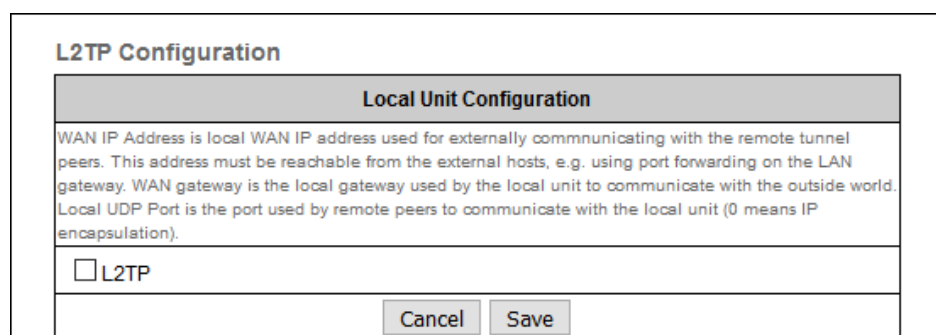

Figure 45. Configurator GUI (L2TP Configuration dialog)
- The **L2TP Configuration** dialog will be shown (Figure 45 \(page 117\)).